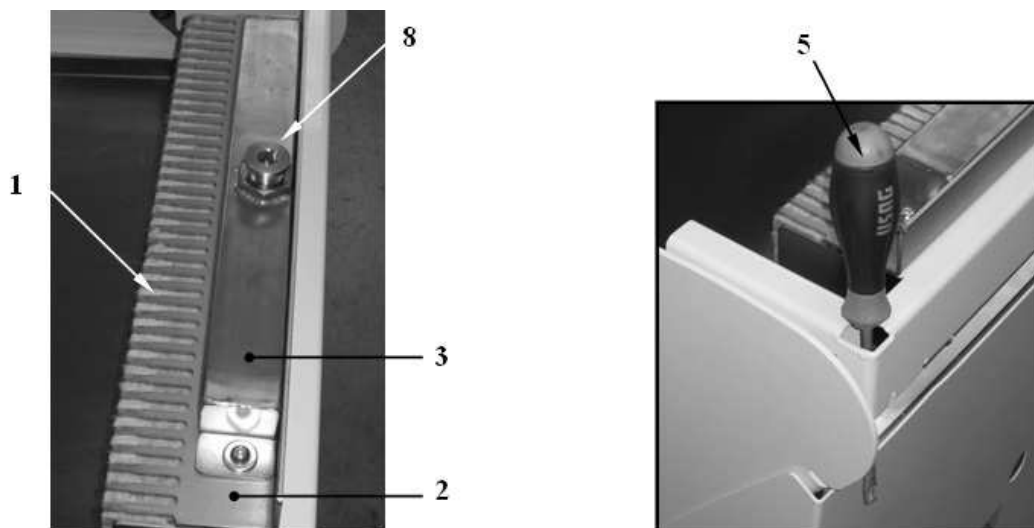

Figure 13
- keeping the lever pulled, insert a sufficiently long screwdriver ref. 5 as in Figure 13